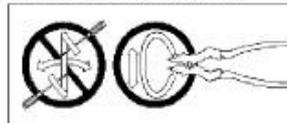

Fig.3
CONNECTING THE WIRES (Fig.3)
19. Connect the electrical wire as shown in figure 3, making sure that all wire connectors are secured. If your outlet has a ground wire (green or bare copper), connect the fixtures ground wire to it. If the junction box has no ground wire, attach the bare copper fixture wire to the green ground screw (Screw: #8-32*3/8"L) on the crossbar. Tuck the wire connections neatly into the ceiling junction box.